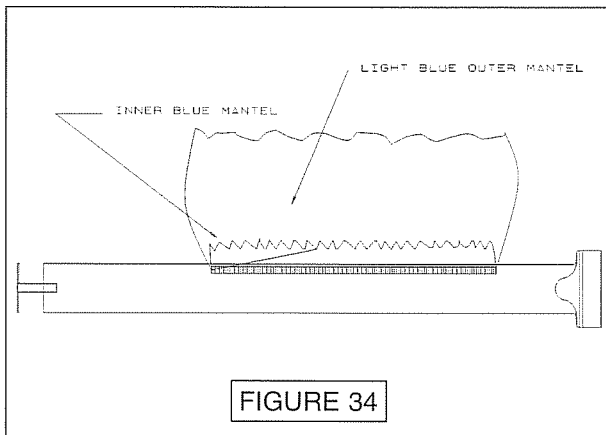

FIGURE 34
- B. The main burner flame should have a well defined inner blue mantel with a lighter blue outer mantel. See figure 34 on page 34.